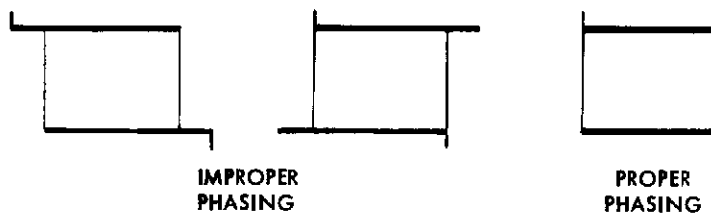

FIGURE 8
2. A rectangular shaped trace should result from the preceding operations, as shown in Fig. 8.
If necessary, adjust the PHASE control located on the rear apron for correct phasing of the horizontal deflection voltage as shown in Fig. 8.